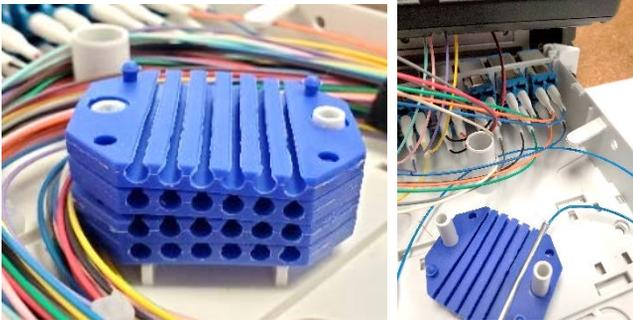

Figure 16
7.4 Strip, cleave, splice, and heat shrink the blue fiber in unit 1 of the cassette and the blue fiber in the blue subunit of the breakout kit according to splicer manual. Place heat shrunk (correctly sized shrinks provided with FOX cassette) splice in designated splice tray modules as shown in **Figure 16**.